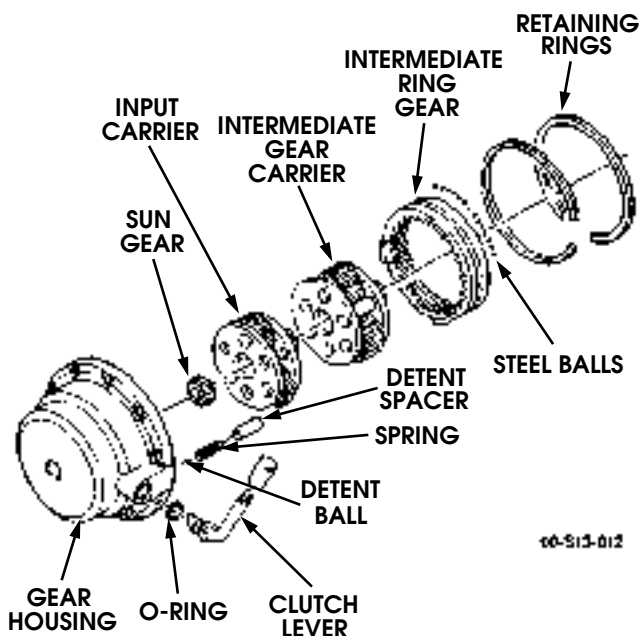

Figure 13-10: Gear Housing
16. Remove detent spacer, spring, and detent ball from gear housing (Figure 13-10).
18. Remove two retaining rings from gear housing (Figure 13-10).
20. Remove input and intermediate gear carrier assembly from gear housing (Figure 13-10).